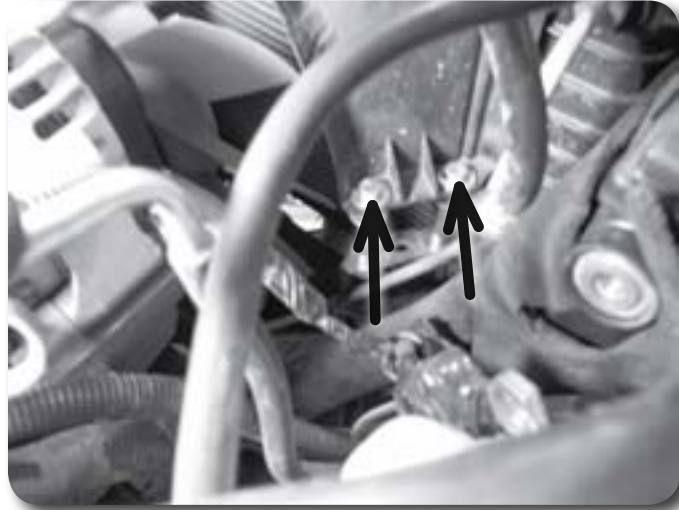

Figure 33
75. Attach the lower fan shroud to the upper fan shroud with four 2" spacers, four 3/8" x 3-1/2" bolts, nuts, and sixteen 3/8" USS washers. The washers mount on both sides of the shroud flange to "sandwich" the plastic **Figure 33**.